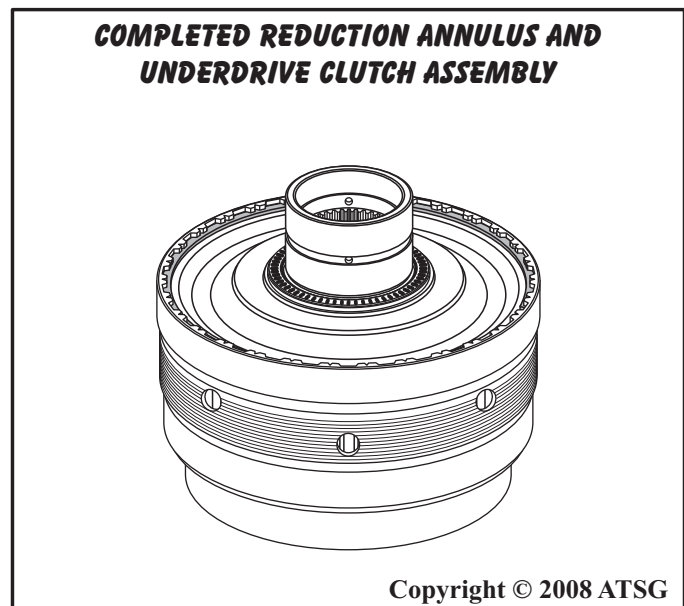

Figure 130
28. Set the completed reduction annulus and underdrive clutch assembly aside for the final assembly process (See Figure 130).